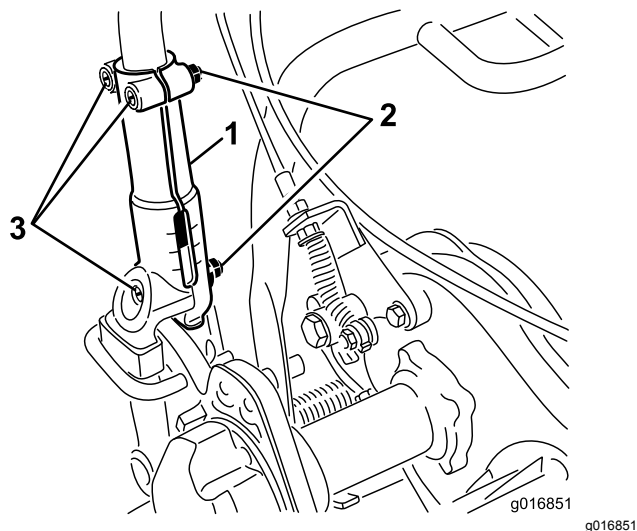

Figure 31
1. Loosen the 3 carriage bolts and nuts securing each side of the handle in the handle clamps (Figure 31).